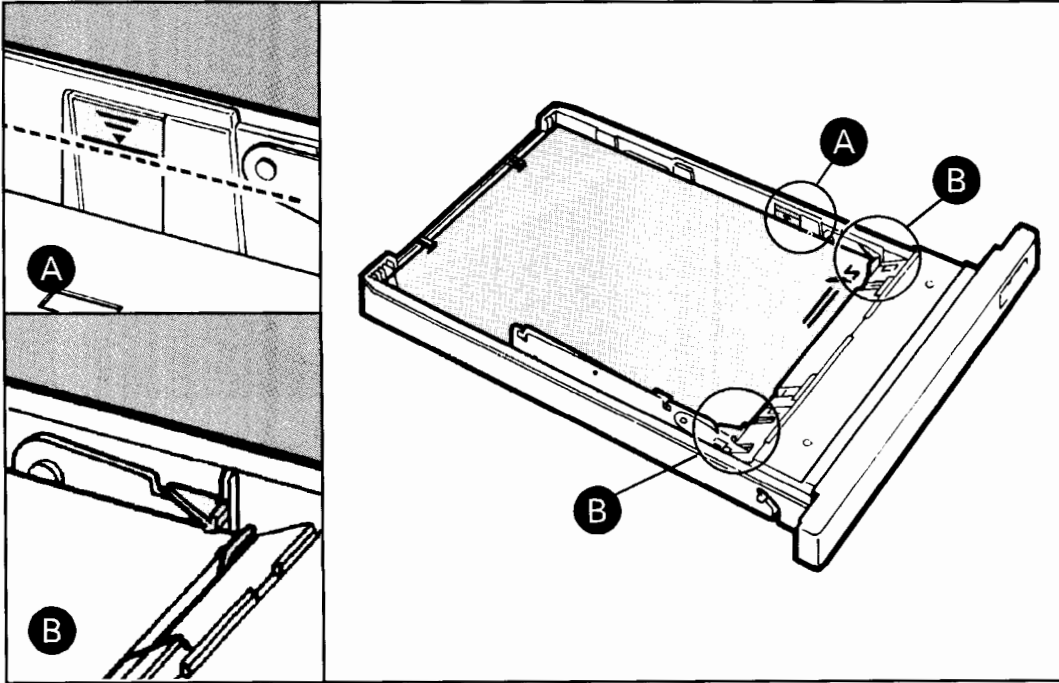

Figure 4-4. Placing Paper Under Metal Clips
4. Press down on the front of the stack to place it under the metal retaining clips at the front of the tray, as shown by **B** in figure 4-4. Make sure you have loaded paper only to the arrow limit mark on the tray, as shown by **A** in figure 4-4.